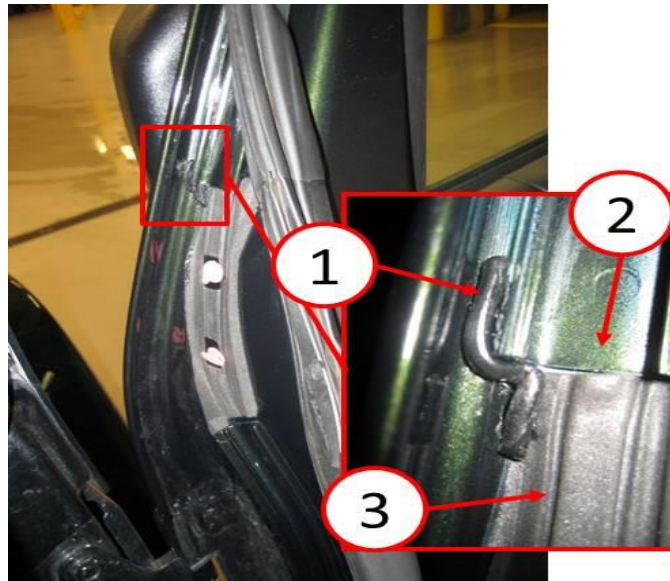

Fig. 17 Butyl Tape Installation
27. Install approximately 1 inch of butyl tape to upper door weatherstrip channel as shown (Fig. 17).